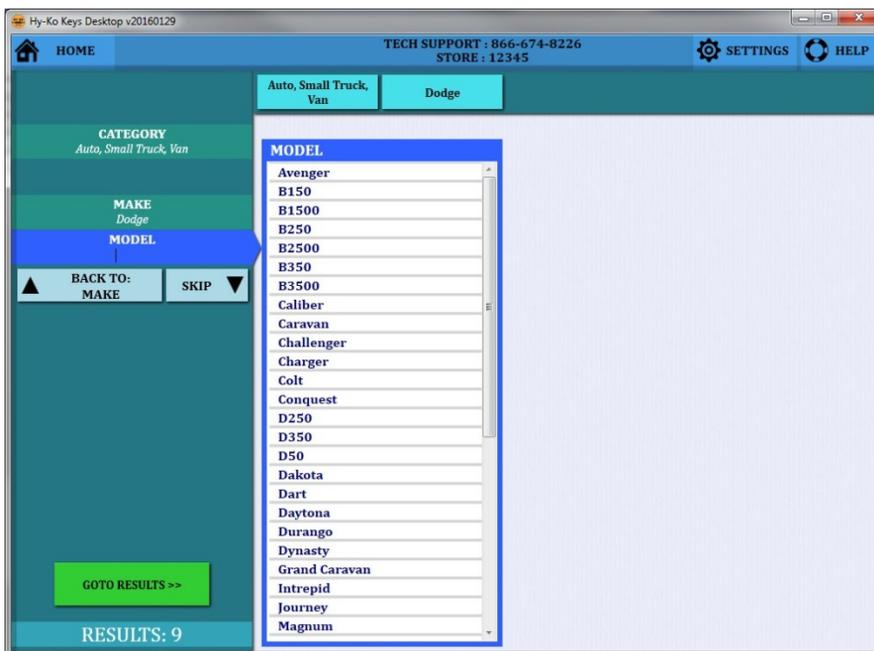

fig. 60
- Choose the Model by clicking on it from the list or by typing it in the 'MODEL' box on the left (see fig. 60).